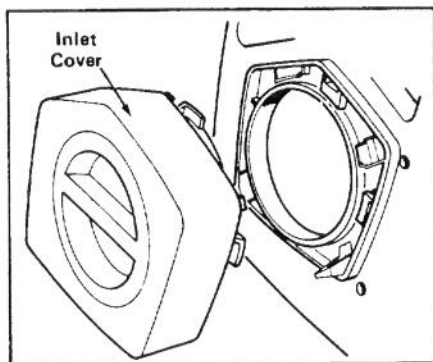

Fig. 2
2. Grasp inlet cover and rotate it counter-clockwise until locking tabs release. Remove cover (Fig. 2).